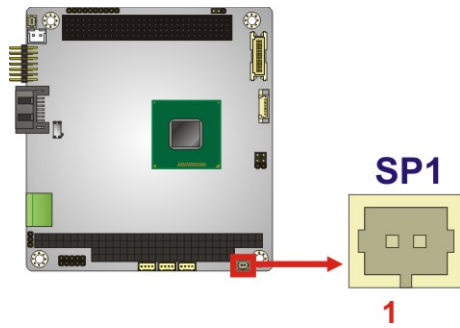

Figure 3-4: Buzzer Connector Location
- CN Location:** See **Figure 3-4**